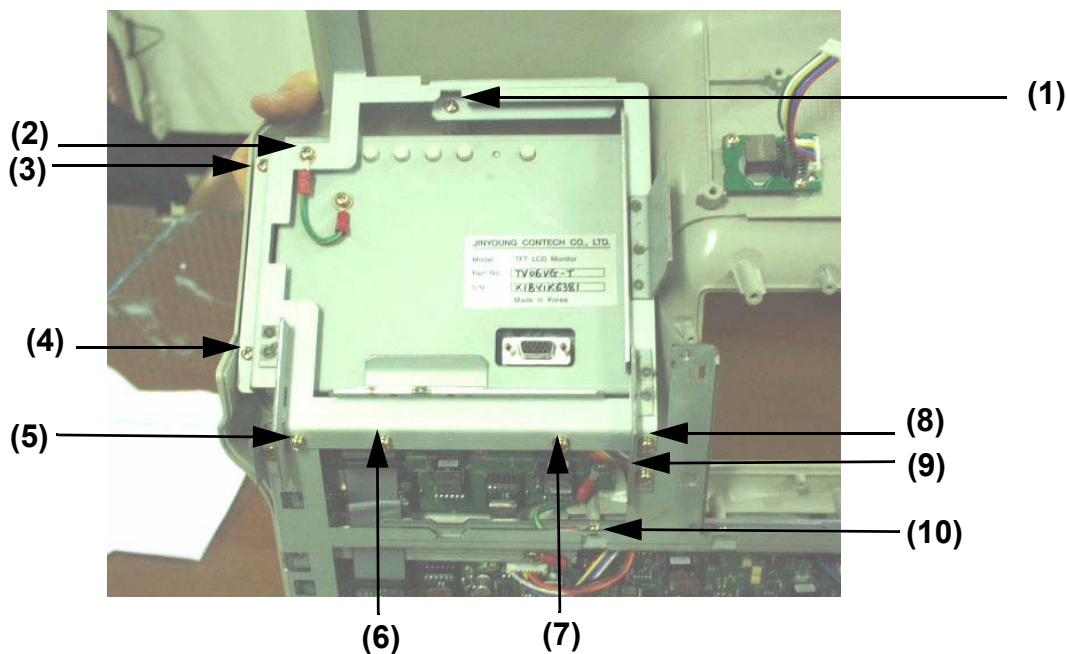

Figure 8-70 Unscrew 10 screws from the LCD brkt
- 1.) Unscrew ten screws (1-10) from the LCD prefix bracket to remove it. Refer to section Figure 8-70 on page 27.